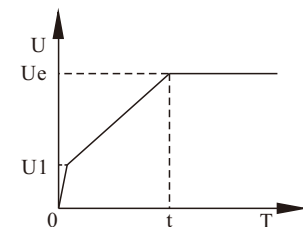

Figure 11
- b) Figure 11 shows the output voltage waveform of this mode, where  $U_1$  is the initial starting voltage. When the motor starts, the soft starter's output voltage rises rapidly, ensuring the motor current does not exceed 400% of its rated value. The motor accelerates smoothly as the voltage increases. When the voltage reaches the rated voltage  $U_e$ , the motor achieves rated speed, the bypass contactor closes, and the starting process is complete.